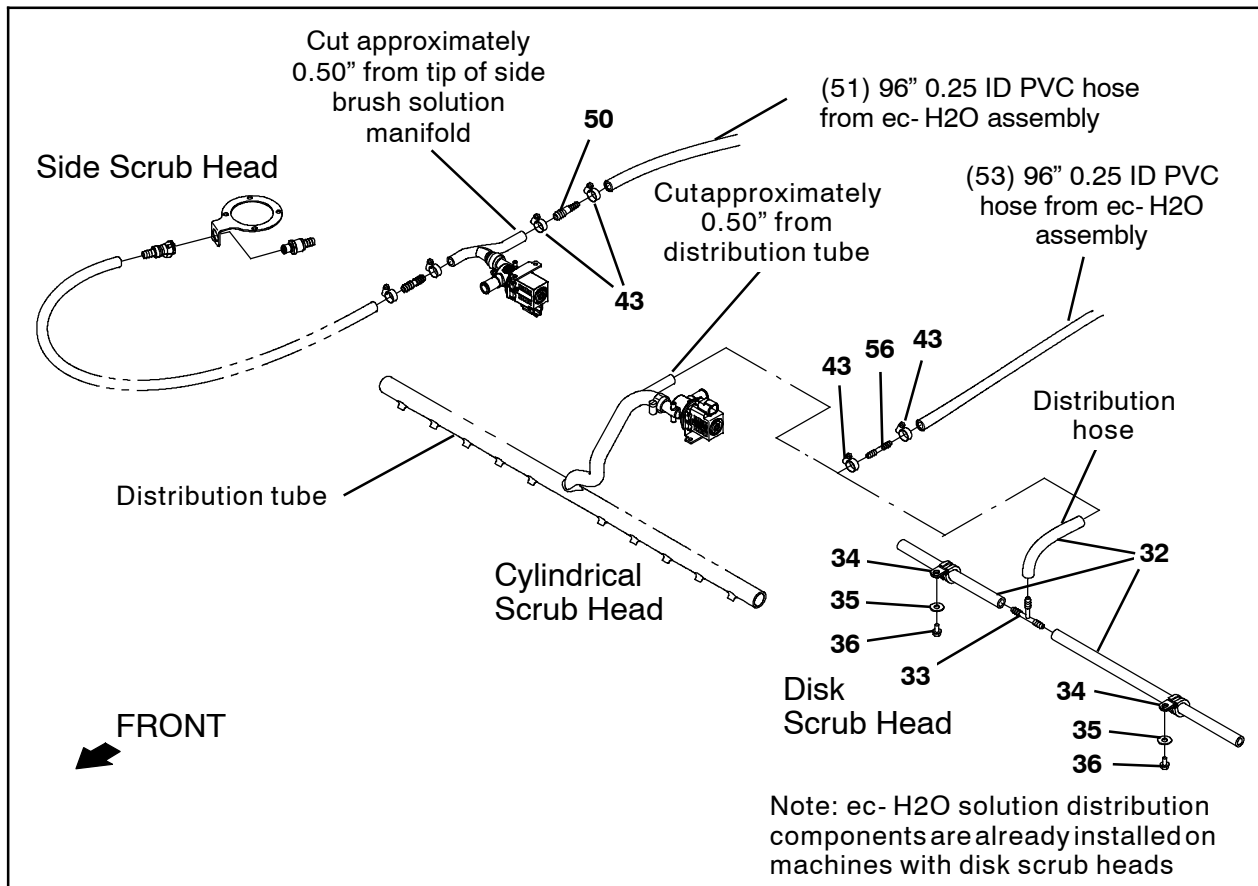

FIG. 16
29. Route the 96" 0.25 ID PVC hose (53) to the main scrub head. (Fig. 16)
30. **Machines with disk scrub heads only:** Insert the barbed plastic straight fitting (56) into the hose and use a hose clamp (43) to secure the straight fitting inside the distribution hose. (Fig. 16)
31. **Machines with disk scrub heads only:** Use a hose clamp (43) to connect the 96" 0.25 ID PVC hose (53) to the straight fitting (56) installed in the distribution hose. (Fig. 16)
32. **Machines with cylindrical scrub heads only:** Cut approximately 0.50" from the tip of the distribution tube. (Fig. 16)
33. **Machines with cylindrical scrub heads only:** Insert the barbed plastic straight fitting (56) into the distribution tube and use a hose clamp (43) to secure the straight fitting inside the distribution tube. (Fig. 16)
34. **Machines with cylindrical scrub heads only:** Use a hose clamp (43) to connect the 96" 0.25 ID PVC hose (53) to the straight fitting (56) installed in the distribution tube. (Fig. 16)
35. Route the 96" 0.25 ID PVC hose (51) to side brush assembly. (Fig. 16)
36. Cut approximately 0.50" from the tip of the side brush solution manifold. (Fig. 16)
37. Insert the barbed plastic straight fitting (50) into the side brush solution manifold and use a hose clamp (43) to secure the straight fitting inside the side brush solution manifold. (Fig. 16)
38. Use a hose clamp (43) to connect the 96" 0.25 ID PVC hose (51) to the straight fitting (50) installed in the side brush solution manifold. (Fig. 16)